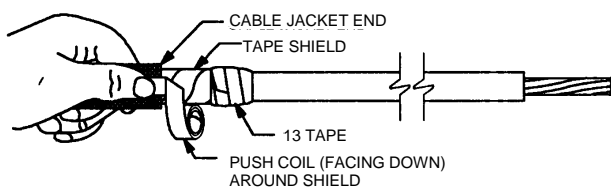

Figure 3
3. Hold the strap in place with thumb. Pull the coil around the cable allowing it to unwrap and rewrap around the shielding and itself (**Figure 3**). NOTE: Cinch (tighten) the applied coil after final wrap.